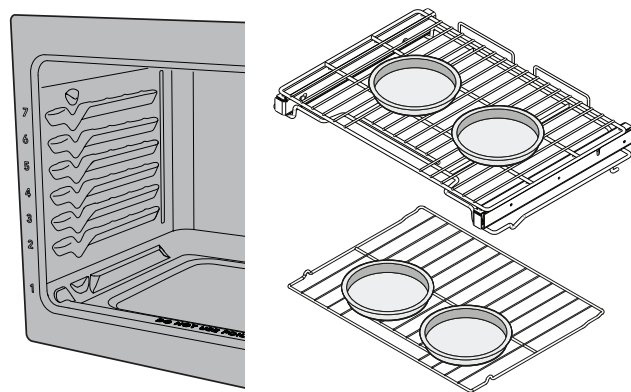

Figure 16: Pan positions for best results when baking cakes on two racks.
- For baking cakes use the following rack positions and place bakeware as shown in Figure 16. In upper rack use position 5 (glide) or 6 (flat).